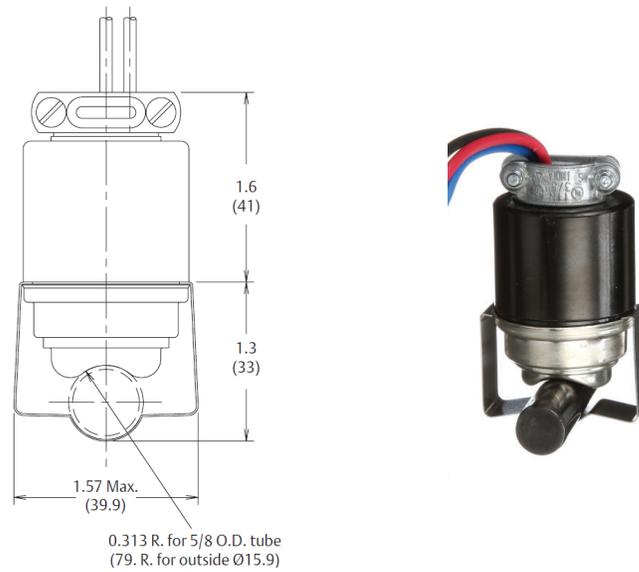

Figure 4
**Conduit Connector** – The 14T is also available with a conduit connector designed to enclose the lead wires in a rigid thin wall or flexible metal conduit. In this configuration, the leads extend from the top of the control instead of the side (see figure 4).